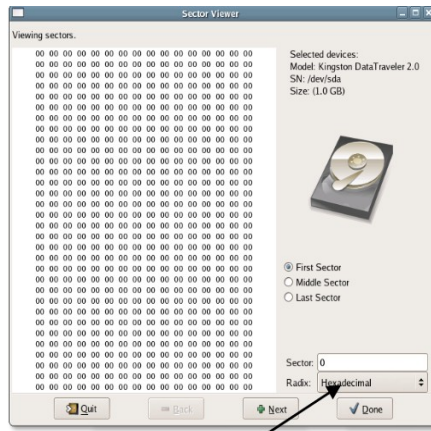

Figure 6.3 – Sector Viewer Screen
6.4 To change the output display from Hexadecimal to ASCII click on the “Radix” pull down menu. Figure 6.3 shows the location of this pull down menu.